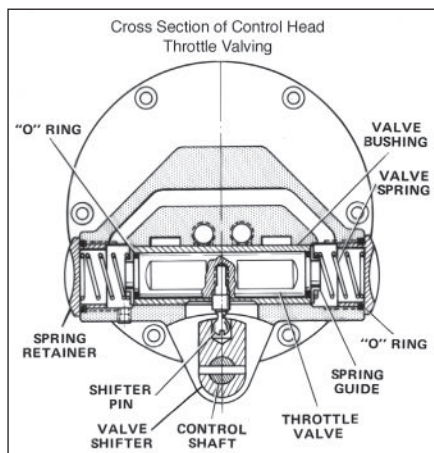
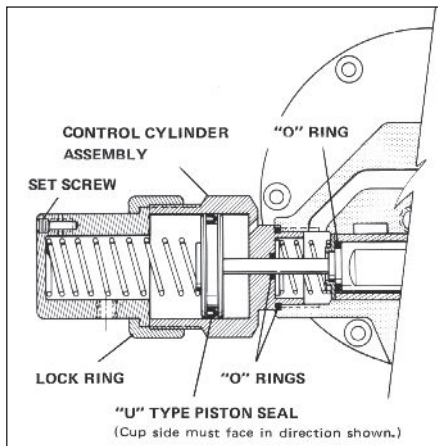

Figure 22 - Section View Showing Assembly of Throttle Valve, Springs and Valve Shifter in Control Head
Figure 23 - Section View Showing Assembly of Control Cylinder on Control Head (Pendant Throttle Control Models)
3. On pendant throttle control models, remove control cylinder assemblies from each side of control head housing *figure 23). On pull cord control models, remove throttle valve spring retainer caps from each side of housing (figure 22). Valve springs, spring guides and "O" ring seals can now be removed from valve bore at each side of housing.
4. The throttle valve is retained in the control head by the valve shifter pin. The pin is assembled with Loctite on the threads and should not be removed for routine servicing. If valve is to be removed, use a hex key to remove pin from bottom of throttle valve (See Figure 22). The valve can now be removed from bushing in housing. The throttle valve bushing is pressed into place and honed to provide a .0001 to .0003 inch clearance with valve. If bushing is scored, worn, or otherwise damaged, the housing and bushing assembly should be replaced along with the valve.
1. Lightly oil throttle valve and bushing with SAE 20 oil. If shifter pin was removed from valve, assemble valve with threaded hole facing slot at bottom of bushing in housing (Figure 22). Shifter pin should be assembled with loctite (277 or equivalent). Extreme care must be taken not to get any loctite on valve outside diameter since this will lock up valve and scrap the complete head assembly.
3. At reassembly of control cylinders (pendant throttle control models), use new "U" type seals on piston heads and "O" ring seals on piston stems. Be sure "U" type seals face direction illustrated in Figure 23.